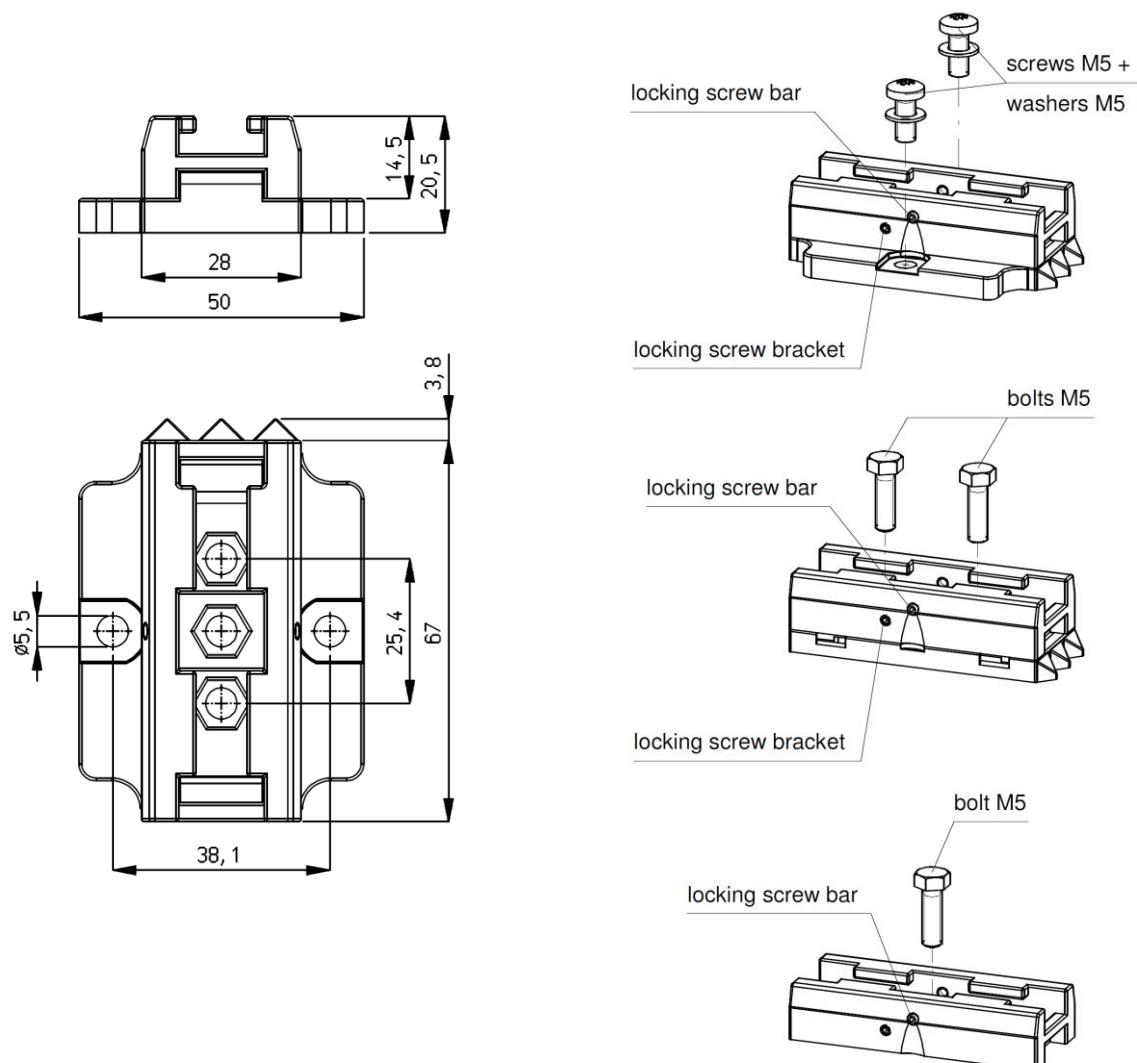

Figure 7: Dimensions and mounting options mounting brackets
- Conductive machine parts close to an IQ Easy Sensor may have a negative influence on its effectiveness. For the best results the Sensor should be mounted according to figure 7.
- Unscrew the adjusting screws (nr. 7) from the brackets (see figure 7).